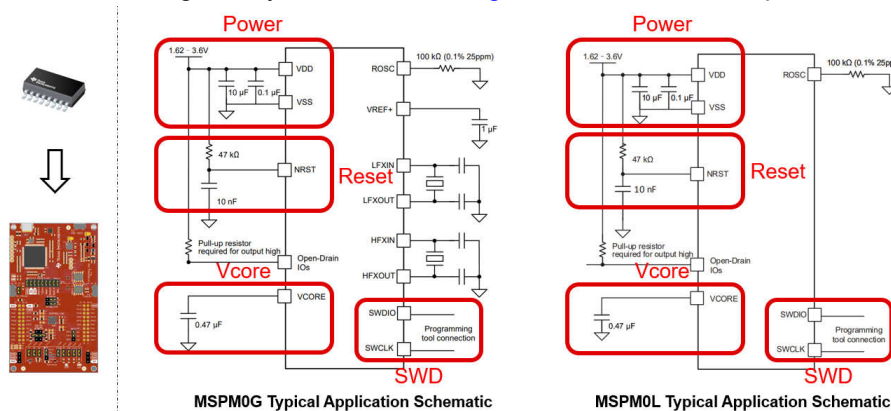

Figure 2-36. MSPM0 Minimum System
3. As for MSPM0 hardware design into your own board. Figure 2-36 shows a sample minimal system design.